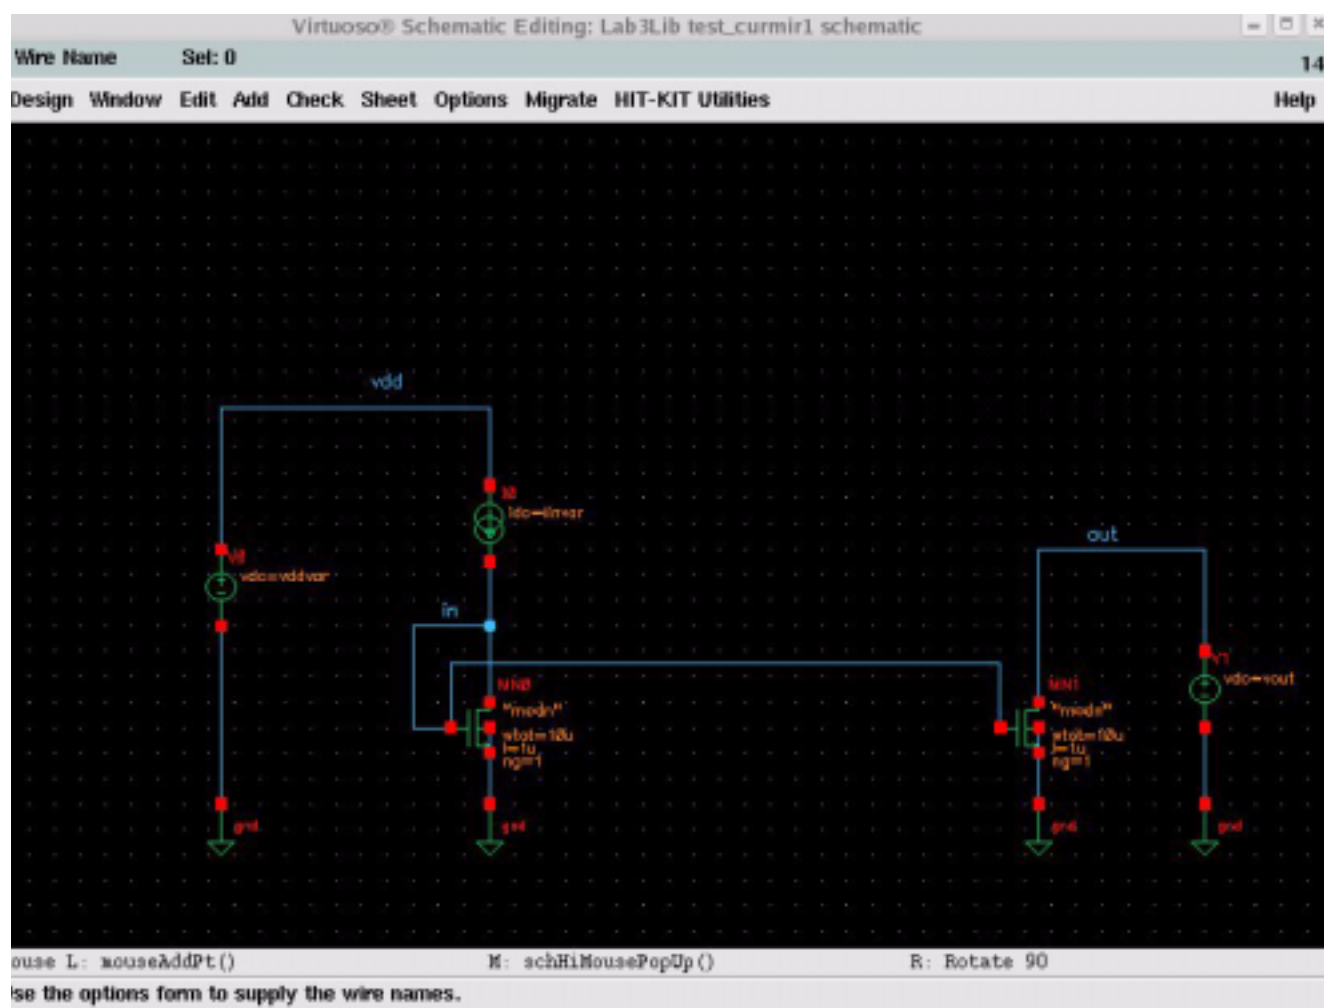

Figure 37: test_curmir1 schematic.
- [2] Draw the schematic of a simple NMOS 1:1 current mirror, similar to the one shown in Figure 37 below. You may keep the transistor dimensions at 10/1 or use your own values. In addition to the current mirror transistors (library PRIMLIB, cellview nmos4), the following sources and grounds are required from the analogLib library: